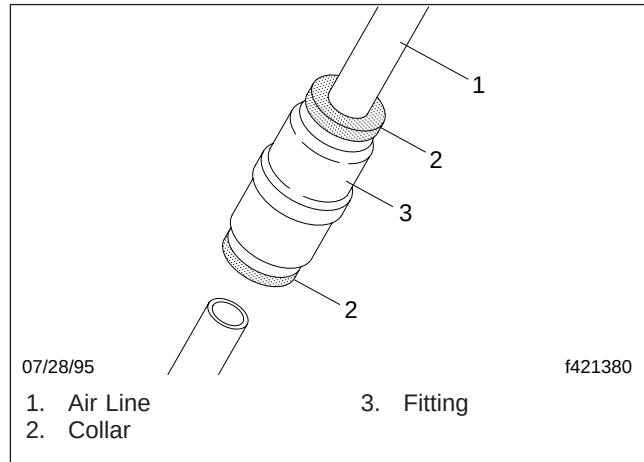

Fig. 4, Quick-Connect Fitting
1. Push in on the fitting collar to release the air line. Pull the line out of the fitting. See Fig. 4.